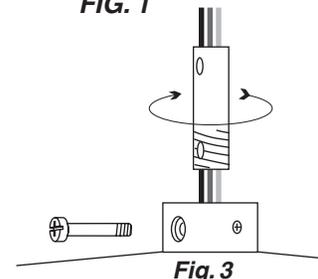

Fig. 3
2. Feed the three wires from the top of the fan through the downrod and thread the downrod into the coupler. Align the holes in the downrod with the holes in the coupler. See Fig. 3